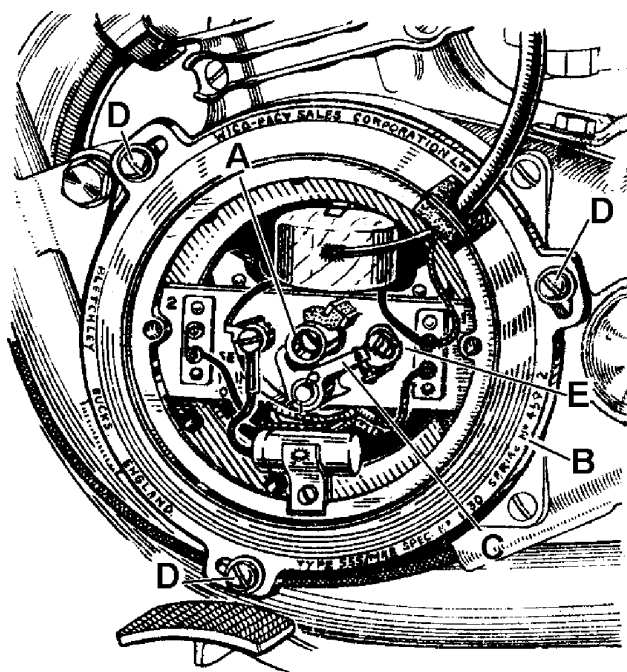

Fig. D4. *The contact breaker mechanism.*
Now insert the electrical ignition unit carrying the plug lead into its recess. Three elongated ears on the outside of this unit allow the screws to be passed through the unit securing it to the flywheel cover (Fig. D4).
On the nearside of the engine, three cheese-headed screws (D) Fig. D4, slotted for withdrawal with a screwdriver and located in elongated slots, and one screw (A) in the centre of the contact breaker mechanism, hold the ignition coil and contact breaker assembly cover in position.
Note that the screw (A) Fig. D4, in the centre of the contact breaker mechanism also secures the contact breaker cam which is keyed on to the mainshaft. The cam will fall from the shaft as the large alloy cover is withdrawn, and care must be taken to see that neither the cam nor its key is lost during this operation.